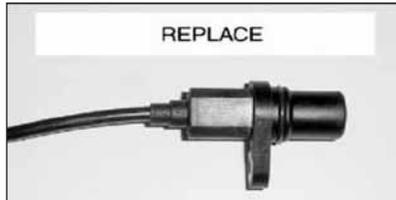

Figure 6 If Hyundai 2.7L CKP sensor wiring comes out straight from the top of the sensor (39180-37200), REPLACE sensor.
- **P/N 39180-37200:** Inspect the CKP Sensor. If the wiring of the CKP sensor comes out straight from the top of the sensor (**Figure 6**, above), REPLACE the sensor.